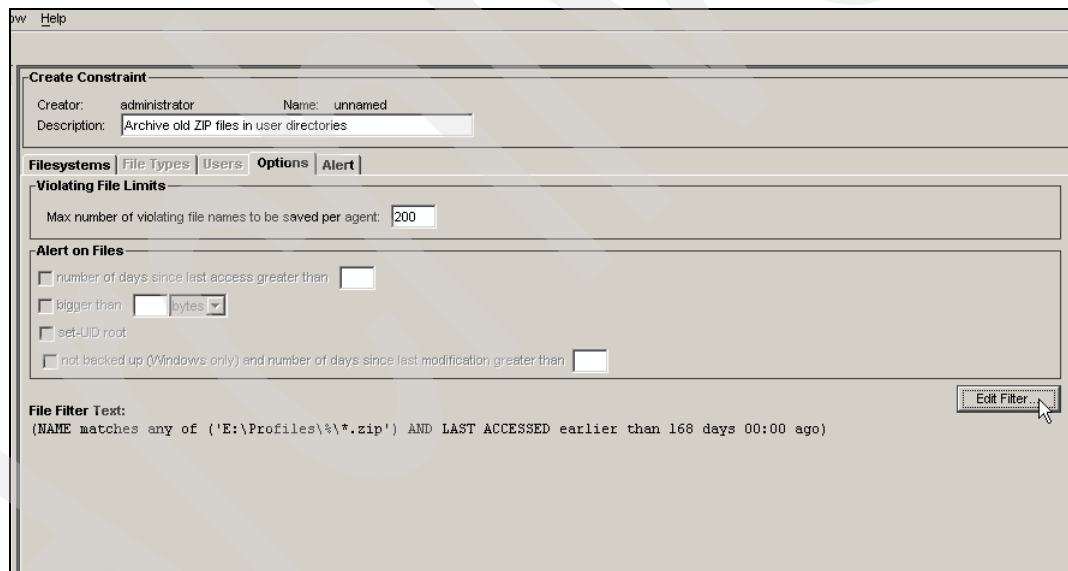

Figure 2-57 Edit constraint filter
3. Select the **Options** tab as in Figure 2-57. Create a filter that specifies the path, the file type, and the access time requirements. In our example, we want to include both: